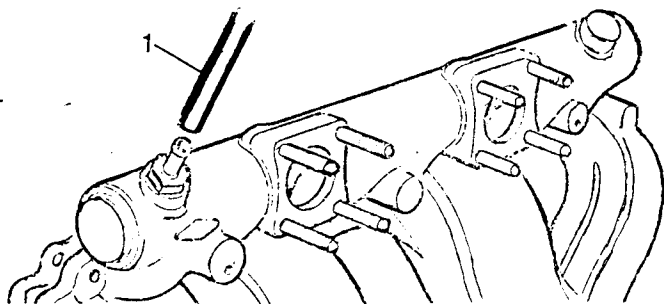

Fig B4.11
- (21) Refer to Fig B4.11. Detach the servo hose (1) at the manifold pipe.